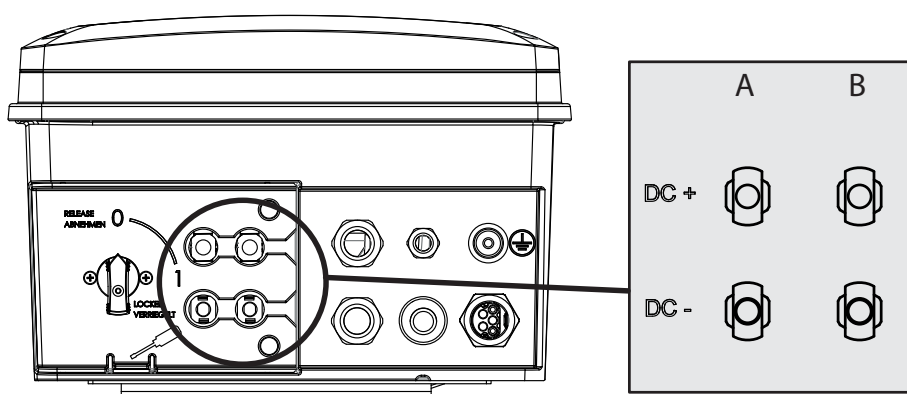

Figure 25: Connections for DC positive and DC negative
Connect the PV generator to the 2 DC positive and the 2 DC negative connection plugs on the underside of the housing (see Figure 25 on page 23). Note the wiring examples given below. The inverter detects these typical configurations automatically. In individual cases, you need to set the selected DC connection after installation in the menu.
4. Put on cover to safeguard the DC connections and latch into place by pressing it. (Figure 25 on page 23)